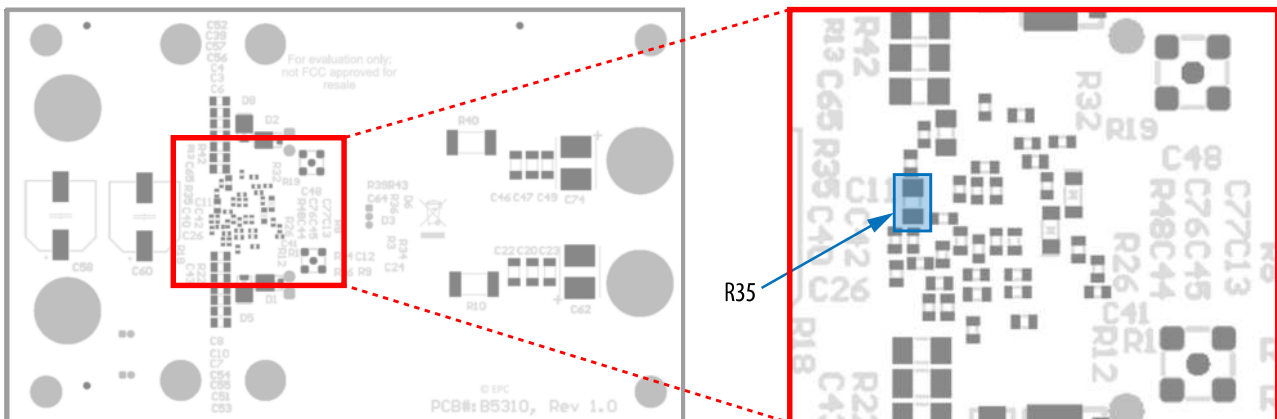

Figure 10: EPC9166 frequency setting: location of R35
The switching frequency is set by the value of R35 with the frequency given in equation (3). The default frequency is 500 kHz. The location of R35 is shown in Fig 10. Refer to ISL81807 datasheet for more information.